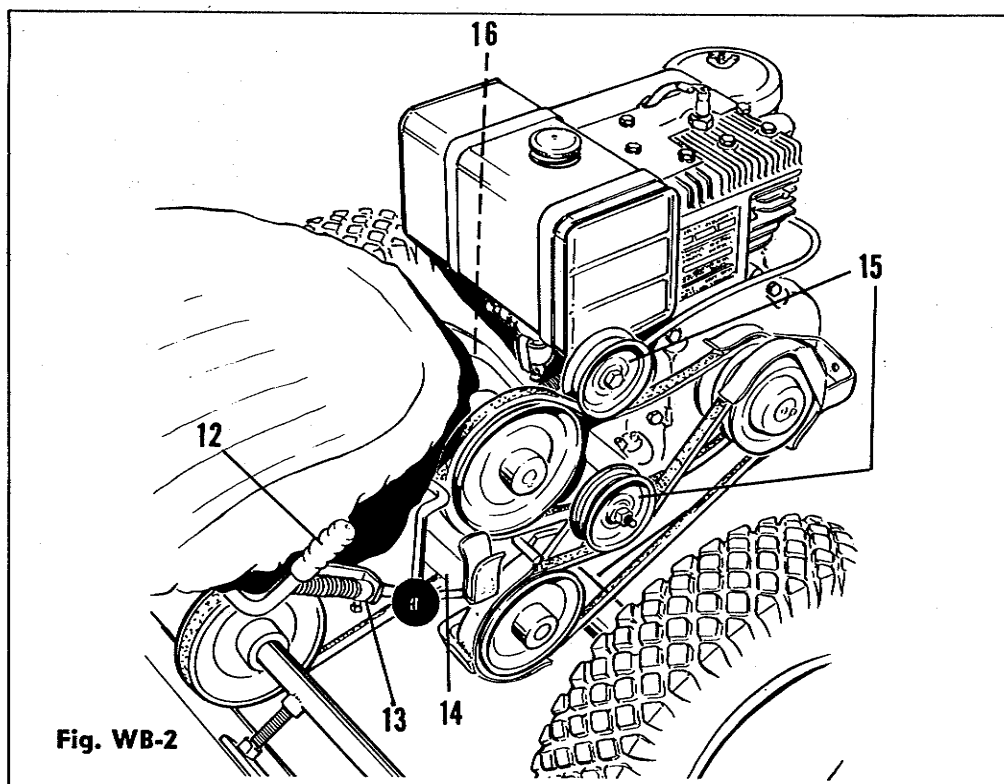

Fig. WB-2
- C. Two idler pulleys (15) Fig. WB-2
- G. Input bearing housing (16) Fig. WB-2
Lever (12, Fig. WB-2) when revolved forward tightens belt that drives power take-off shaft and also tightens belt from power take-off shaft to implement. Belt tension is regulated by moving set collar (13, Fig. WB-2) on control rod. Proper adjustment will result in a $\frac{1}{2}$ " to $\frac{5}{8}$ " gap between set collar and bracket when implement is attached and lever (12) is engaged. A readjustment of the set collar must be made when belts stretch or other implements are attached.
NOTE 2. When attaching belts from implements to the power take-off shaft, be sure lever (12, Fig. WB-2) is revolved back, this will permit pulling power take-off housing forward to facilitate installation of belt.